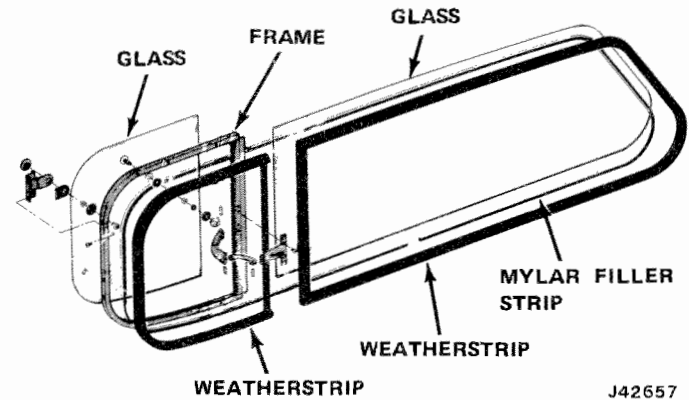

Fig. 15-4 Rear Quarter Window - Cherokee
- (1) Remove mylar insert from weatherstrip.
- (2) Pull weatherstrip back and remove window frame-to-body screws (fig. 15-4).
- (3) Pull window frame toward outside of vehicle.
- (4) Remove window frame and weatherstrip assembly.
- (5) Inspect weatherstrip and replace if necessary.
- (1) Remove four handle-to-frame attaching screws (fig. 15-4).
- (2) Remove two glass hinge screws and washers.
- (3) Remove glass.
- (4) To remove handle assembly from glass, carefully drive out handle assembly-to-stud roll pin.
- (5) Unscrew stud nut and remove stud from glass.